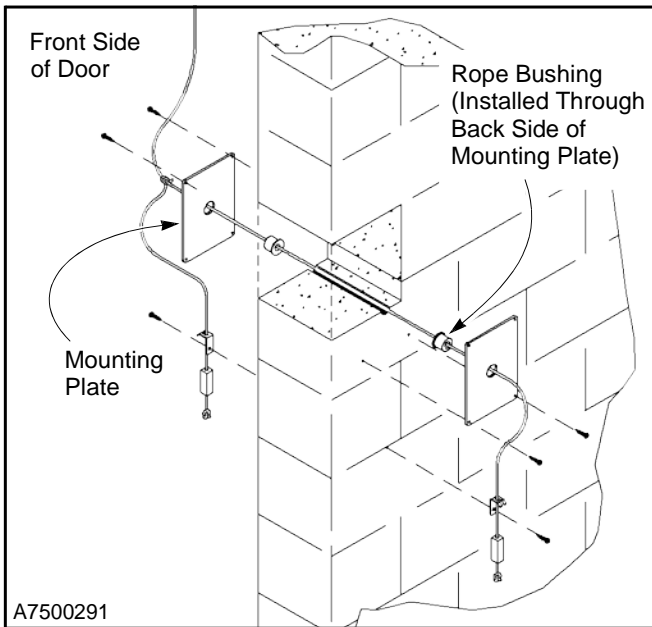

Figure 41
6. Using hardware appropriate for the wall, mount a brake release mounting plate over each end of the 1-in. hole. Center the mounting plate rope bushing over the hole as you position each plate. (See Figure 41.)